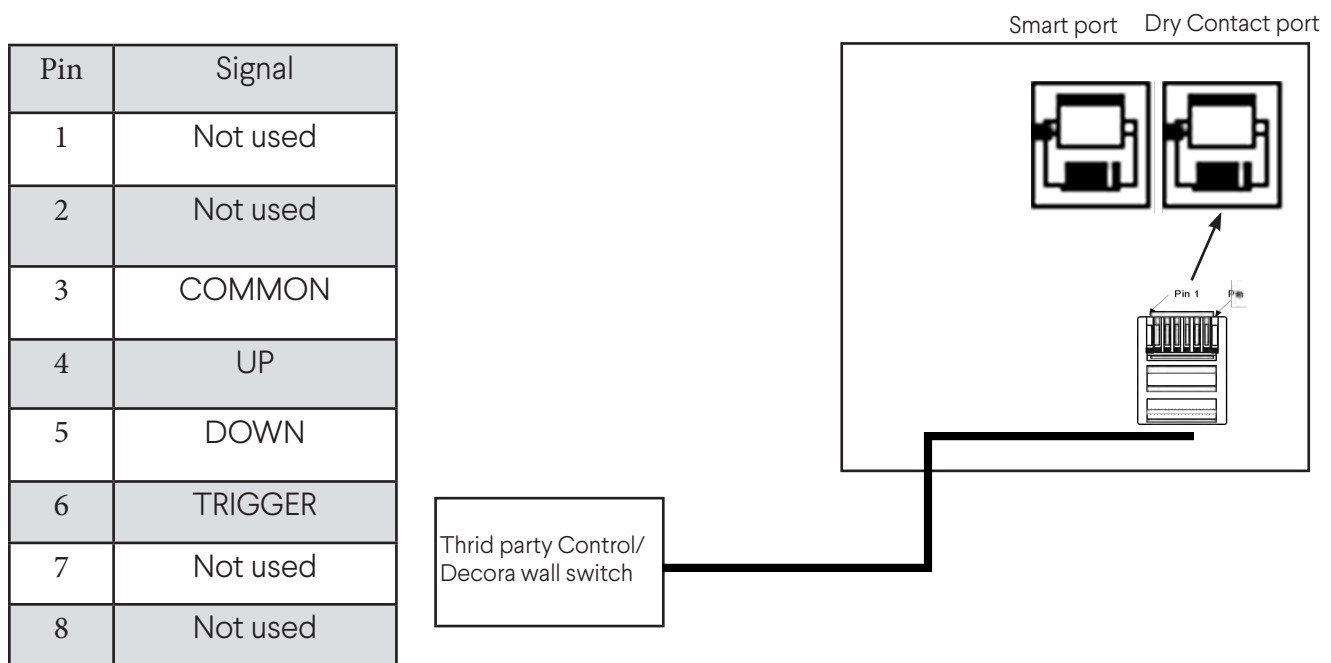

Figure 29. RJ45 pinout diagram
5. For RJ45 pinouts (see Figure 29).
All Stewart Filmscreen “smart port accessories” that are RJ25 will plug into the RJ45 smart port (see Figure 18) on the back of the Luxus case. In the box you will find two spare RJ45 connectors. These are provided for the ease of making or extending wires for use with dry contact port. If you need to create a connection using the included RJ45 plugs, you must connect to the dry contact port (see Figure 18). Any dry contact connections must match the RJ45 pinout diagram (see Figure 29).